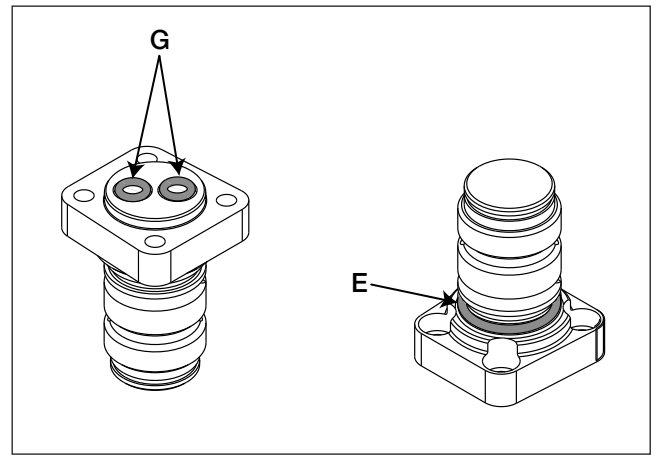

Figure 2, O-ring Installation, Swivel Post
- Check that the four socket head capscrews (D) securing the swivel post are tight. See Section 5.0, step 6, for torque values.
- Remove the old O-ring (E) from the swivel post (F) and replace it with a new O-ring (E) from the kit. Coat the O-ring with silicone grease before installing. See Figure 2 for location.
- If not already done: Remove the circlip retainer ring (A) from the top of the swivel post (F). Using a pair of screwdrivers, gently pry the old swivel assembly (B) off of the swivel post (F).
- Remove the four socket head capscrews (D) securing the swivel post (F). Gently pry the swivel post (F) from the drive unit or wrench housing (H).
- Wipe clean all surfaces of the drive unit or wrench housing (H). Then, apply a small amount of Loctite 243 thread sealant in each of the four threaded bolt holes (*) in the drive unit or wrench housing (H). Be careful not to drip sealant into the hydraulic ports.
- Install two new O-rings (G) into the ports on the base of the new swivel post (F). See Figure 2 for O-ring locations.
- Place the new swivel post (F) on the drive unit or wrench housing (H), making sure that hydraulic ports are aligned. Be careful that O-rings (G) do not drop out or become pinched or cut.
7. Install the new swivel post O-ring (E) from the kit. Coat the O-ring with silicone grease before installing. See Figure 2 for location.